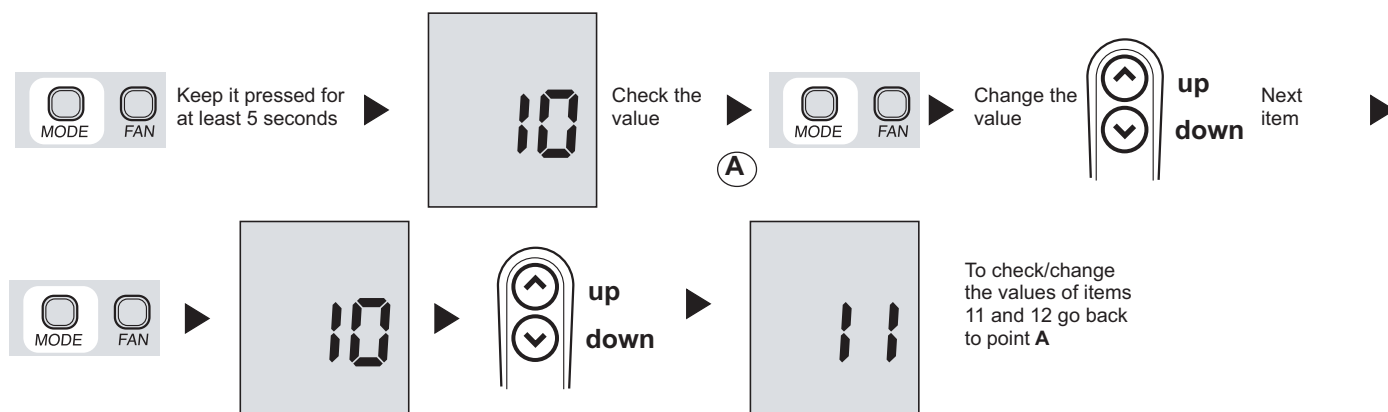

Fig. 32 — Room Controller Configuration Steps
To configure the room controller, press the Mode button for 5 seconds. After 5 seconds, “10” will appear. This indicates that the user is setting the first software configuration item. To display the value of configuration item 10, press the Mode button again. The value of the Heat/Cool vs Cooling only remote configuration will be displayed along with the “Set Temp” icon to indicate that the number displayed is the configuration data. Refer to Table 7 for configuration values. To change the Heat/Cool vs Cooling only remote Configuration, press the Up and Down buttons. To move to the next setting, press the Mode button again and the “10” will be displayed. Press the up button and the display will change to “11.” Refer to Fig. 32. The Mode button will toggle the display between the items and the configuration value. The Up and Down buttons will change either the index or the value, whichever is displayed at the time. Press the Fan button to exit the Configuration Setup Mode. This mode will exit automatically after 10 seconds of inactivity. Once a configuration value is changed, the last value displayed will be the new configuration value for the room controller.